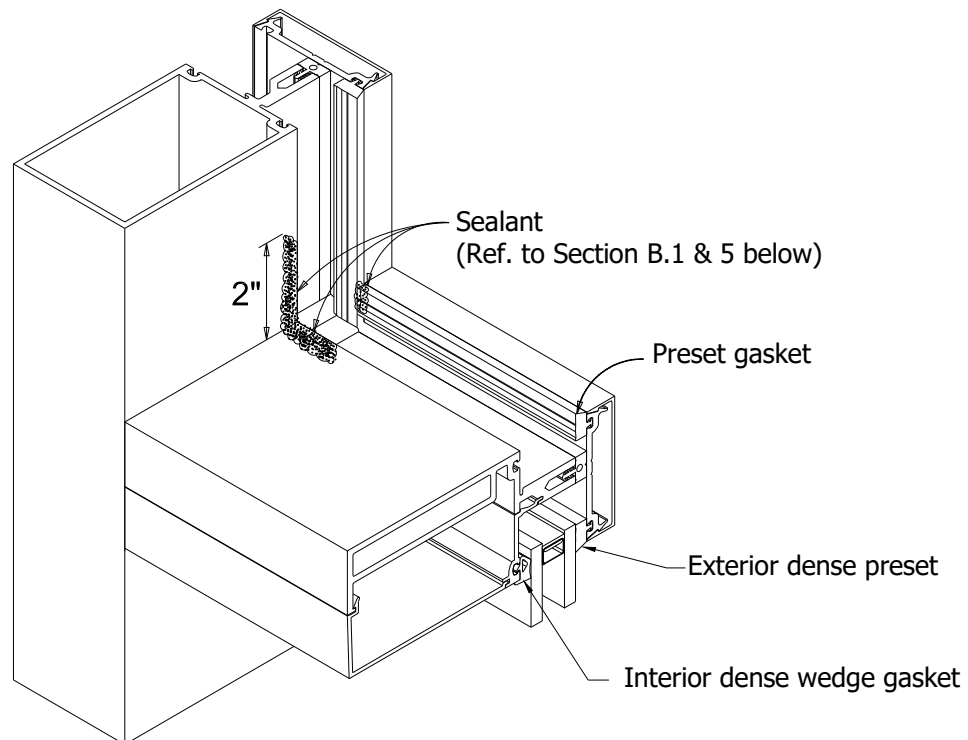

FIG. 3
- 1.) Apply silicone sealant into the raceway a minimum of 2" each way at all corners to the inside face of the glazing pocket. See FIG. 3
- 5.) Seal all corners. Pull the horizontal gaskets, seal the ends with sealant, and jam into the vertical gasket to insure a snug fit as shown in FIG. 3 above.